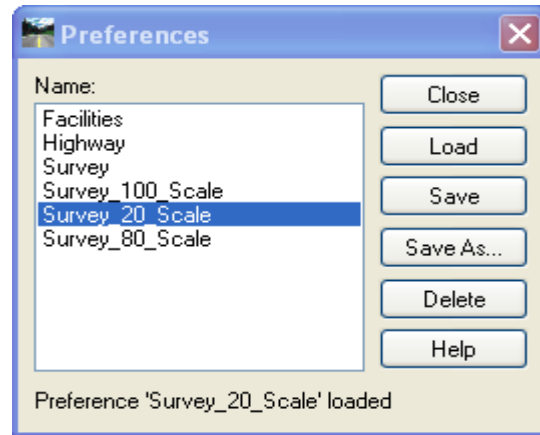

Figure 8-5 InRoads Preference Dialog Box
- B. On the InRoads menu select **File > Project Options**. Select the **Preferences** button and load the desired scale see Figure 8-5.